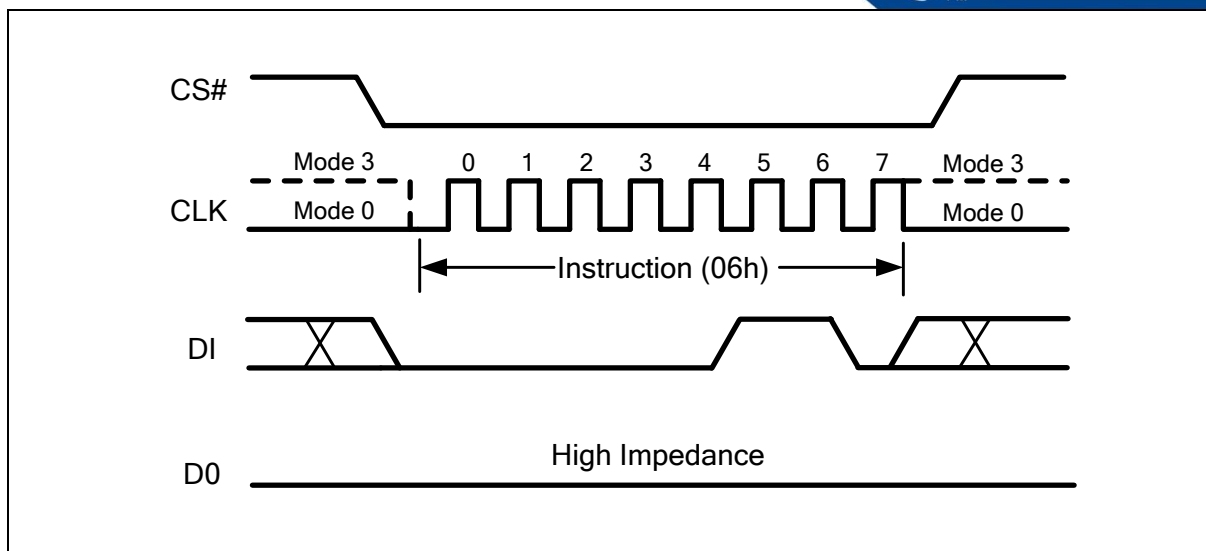
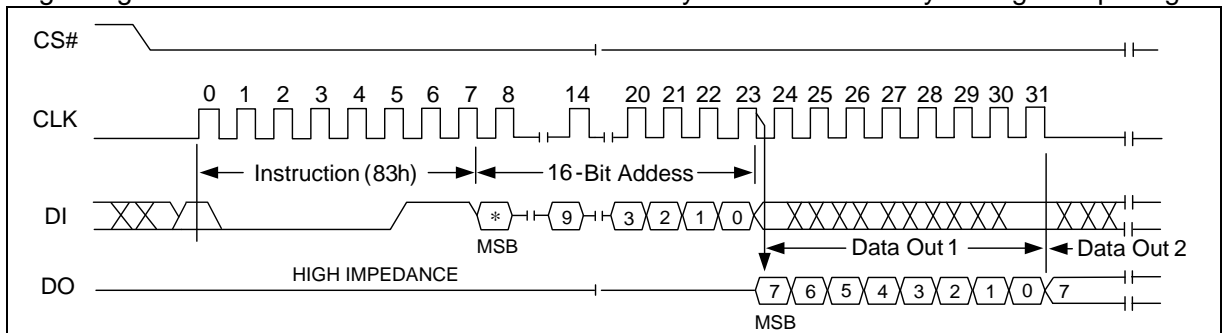

Figure 5 Write Enable Instruction
Figure 15 Read UID Number Sequence
Instructions vary in length from a single byte to several bytes and may be followed by address bytes, data bytes, and in some cases, a combination. Instructions are completed with the rising edge of edge CS#. Clock relative timing diagrams for each instruction are included in Figure 5 through Figure 15. All read instructions can be completed after any clocked bit. However, all instructions that Write must complete on a byte boundary (CS# driven high after a full 8-bits have been clocked) otherwise the instruction will be ignored. This feature further protects the device from inadvertent writes. Additionally, while the memory is being written, or when the Status Register is being written, all instructions except for Read Status Register will be ignored until the write cycle has completed.
The Write Enable (WREN) instruction (Figure 5) sets the Write Enable Latch (WEL) bit in the Status Register to a 1. The WEL bit must be set prior to every Write and Write Status Register instruction. The Write Enable (WREN) instruction is entered by driving CS# low, shifting the instruction code "06h" into the Data Input (DI) pin on the rising edge of CLK, and then driving CS# high.
The Read Unique ID Number instruction accesses a factory-set read-only 128-bit number that is unique to each FM25N512A device. The ID number can be used in conjunction with user software methods to help prevent copying or cloning of a system. The Read Unique ID instruction is initiated by driving the CS# pin low and shifting the instruction code "83h" followed by a 16-bit address A15-A0 into the DI pin. Address bit A9 must be '1b', upper address bits are don't care, the lower address bits [A3:A0] define the byte address inside the UID. After which, the 128-bit ID is shifted out on the falling edge of CLK as shown in Figure 15. When the end of the 128-bit UID number is reached (16 bytes of data), the data word address will roll-over back to the beginning of the 128-bit UID number. The read UID cycle is terminated by driving CS# pin high.